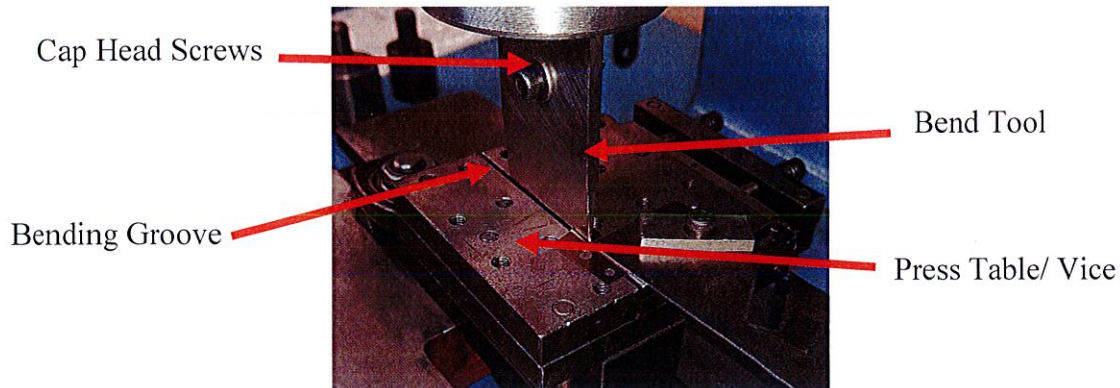

Figure 2: Bend tool fitted and in line with groove in press table/ vice.
6.2. **Fitting bend Tool.** Using two cap head screws, attach the bending tool to the press unit. Make sure that the tool is in line with the groove in the press table/ vice as shown in figure 2.